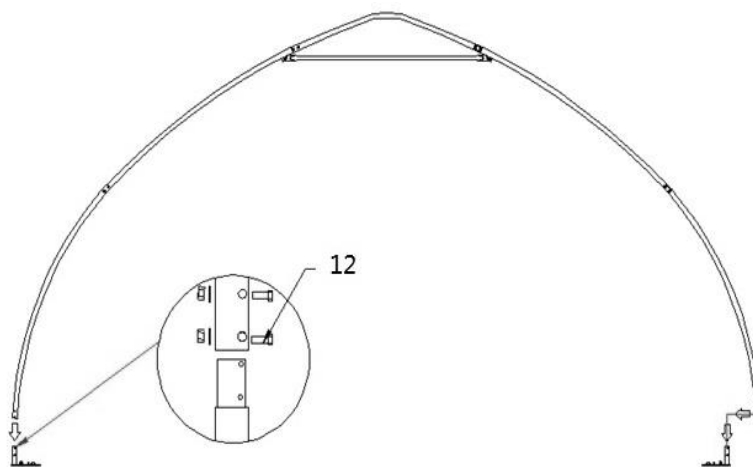

Figure 4
- Recommend a forklift to lift the truss up or a couple of people to pull from different directions. When the truss is up, tie the ropes to the heavy objects to make sure the truss will stay upright and use bolt (#12) to connect the truss to the baseplate on both sides (refer to figure 4).
- (4) Hex bolt M8x60 and nut (#12)